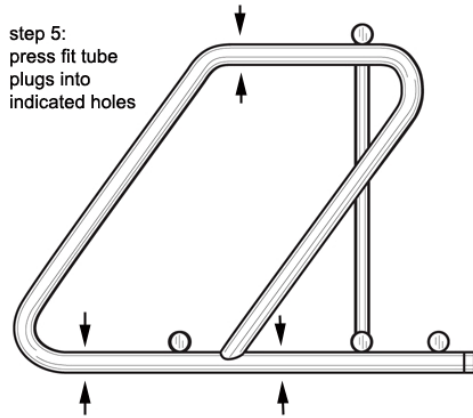

Fig. 2b
Step 5: Insert tube plugs into unused holes as indicated in Fig. 2b.